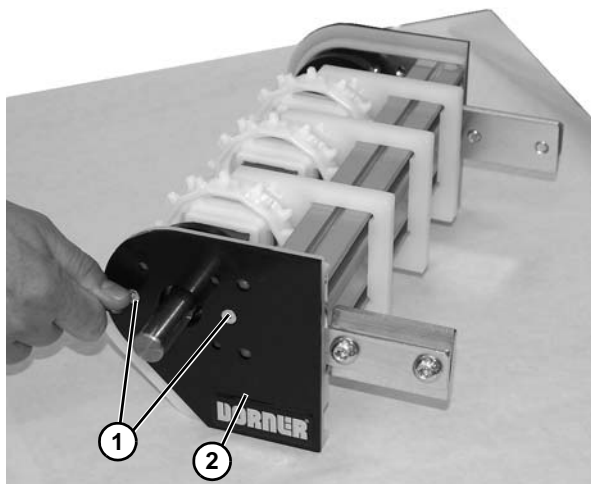

Figure 50
4. Remove the two flat head screws (Figure 50, item 1) and cover (Figure 50, item 2).